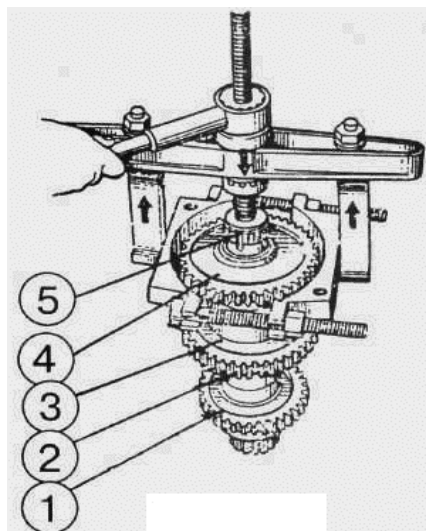

Figure 4.69
a) press off intermediate shaft 5 (Figure 4.69) gears 1, 2, 3, 4;